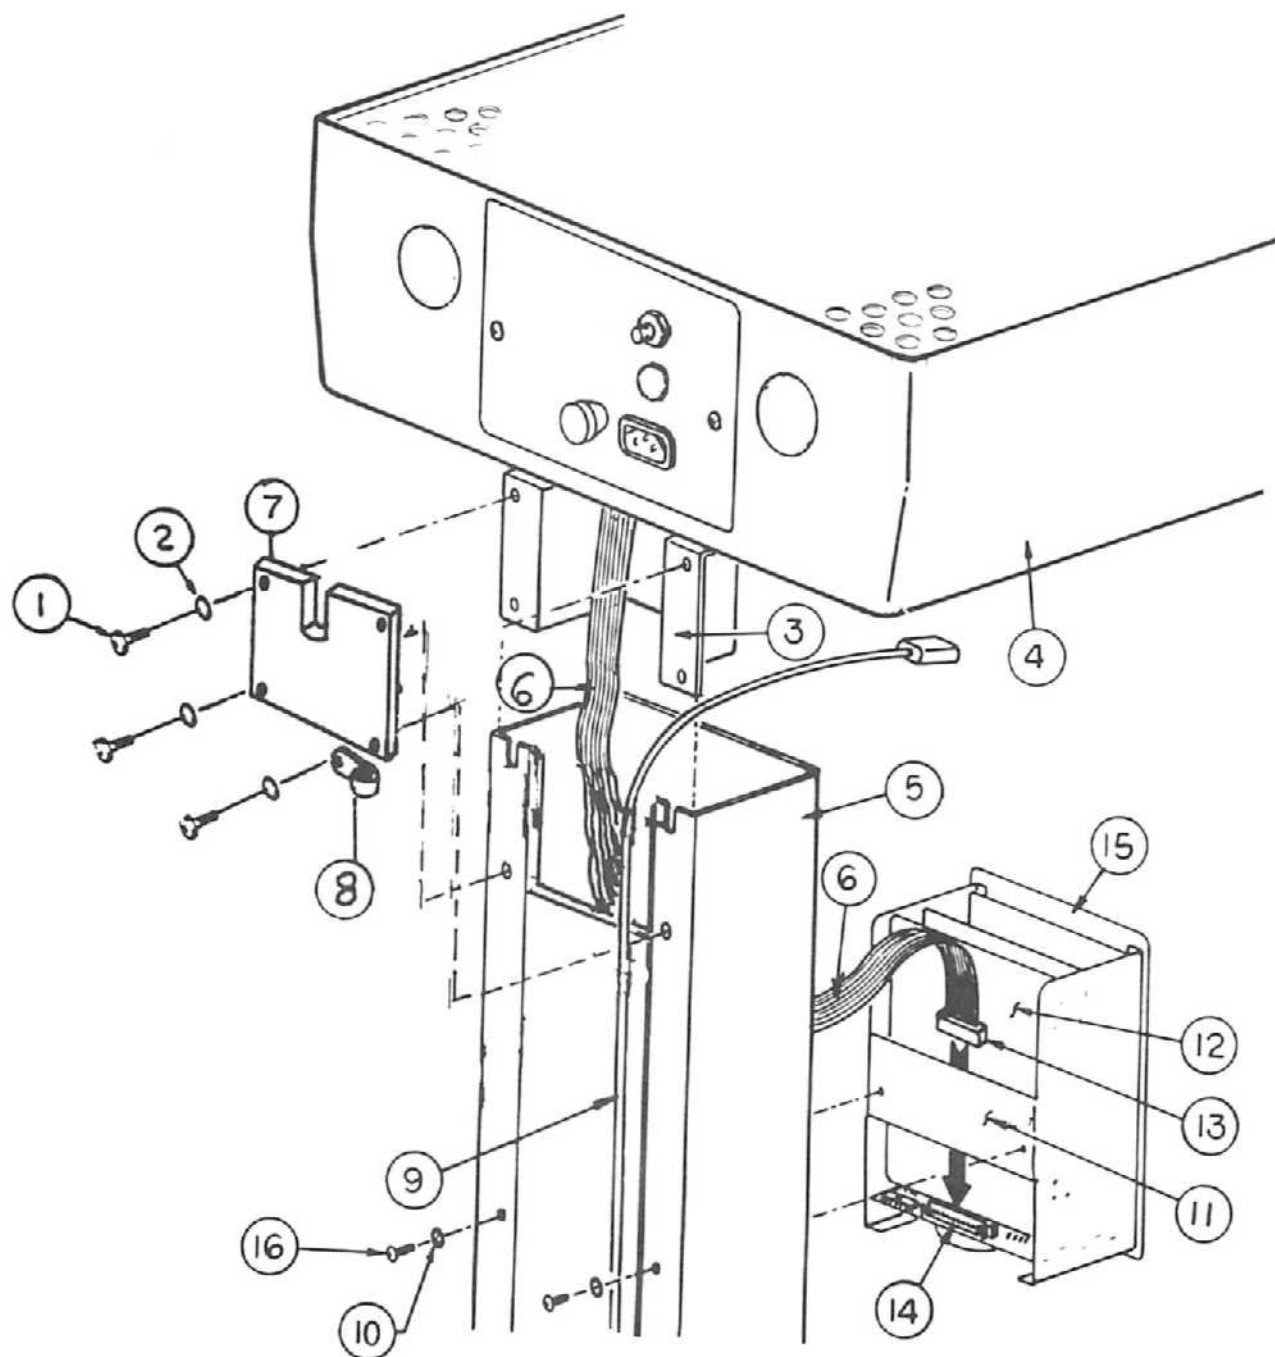

FIGURE 2.3 INSTALLATION OF WARMER MODULE AND CONTROLLER
To install the Warmer Module on the Mounting Post, refer to Figure 2.3 and proceed as follows:
- C. INSTALL THE POWER CORD CLAMP (8)** on the Power Cord (9); position the clamp 11 inches from the end of the Power Cord.
- D. SECURE THE POWER CORD CLAMP AND POWER CLAMP** to the Mounting Post and reinforcing bracket when installing the two lower-most Warmer Module mounting screws (1) as shown in figure 2.3 and the illustration below. Tighten all mounting screws securely.